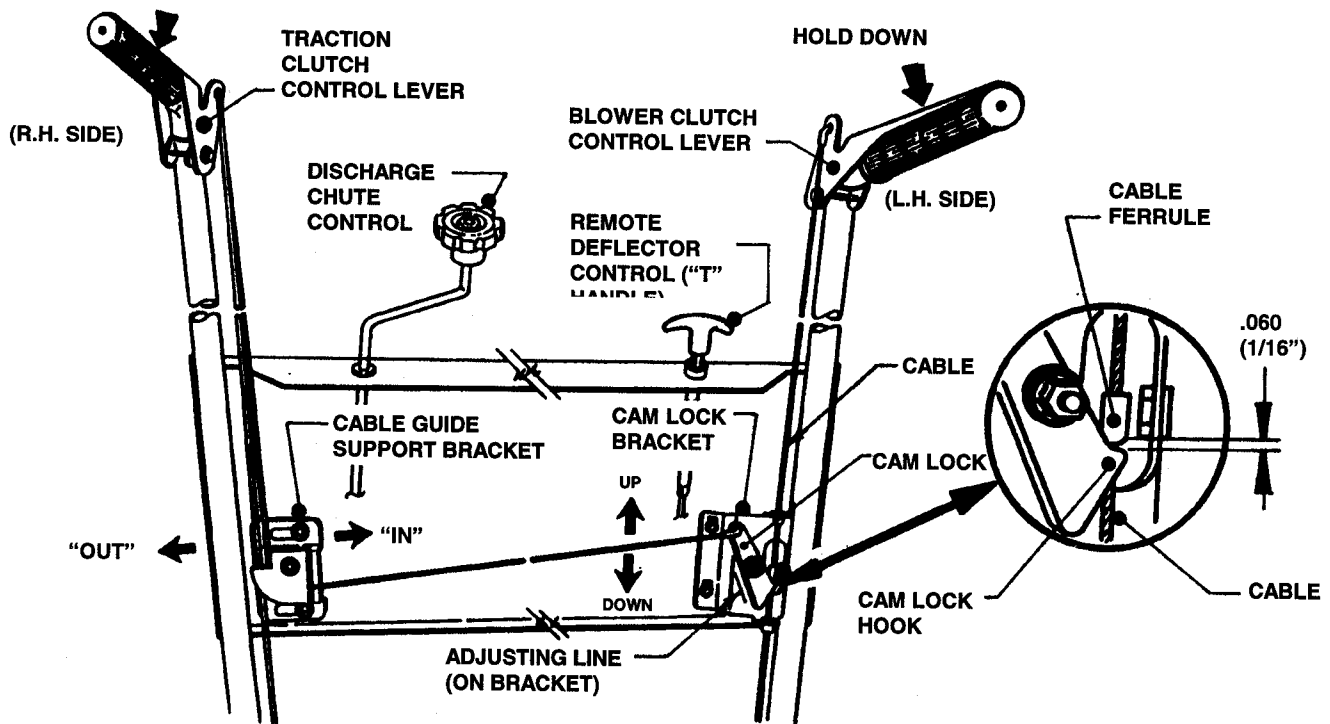

FIGURE 4.11
1. Hold the wheel drive control lever down against the handle. See Figure 4.11.
5. Check the position of the cable ferrule in relation to the cam lock. The ferrule must be located 1/16" (.060) above the hook of the cam lock. To adjust, loosen the three nuts that secure the cam lock bracket. Slide bracket up or down until correct measurement is achieved. Retighten nuts securely. See Figure 4.11.